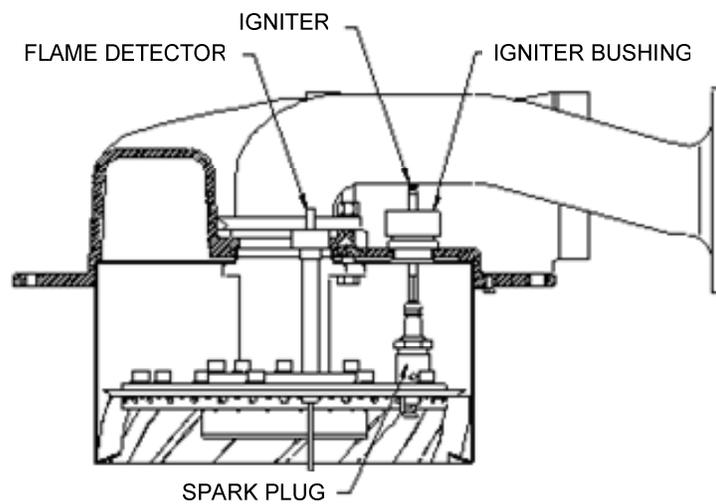

Figure 10. Burner Assembly Cut-Away View
2. Insert the igniter removal tool into the burner shell, where the igniter bushing was removed. Fit the hexagonal end of the tool over the igniter. (see Figure 10).
6. Refer to Figure 10 and reinstall the igniter in the location shown. Do not over-tighten. A slight snugging up is sufficient.